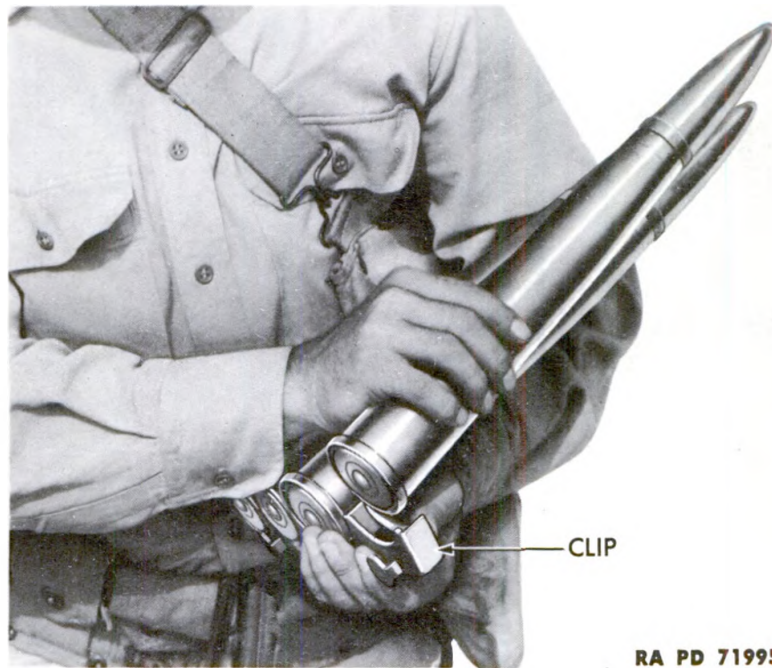

Figure 99 – Loading Cartridge in Clip
d. **To Load Ammunition in Clips.** Press the spring-loaded pin on the side of the clip (fig. 99). Insert the rim of the cartridge in the proper one of the four concave depressions of the clip. Release the pin to permit the hook to clamp the cartridge in place in the clip.